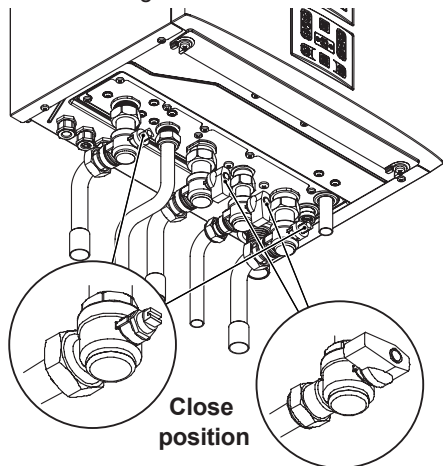

Fig. 2.34
- Shut off the gas supply cock and the valves for the water circuits fitted under the boiler Fig. 2.34.